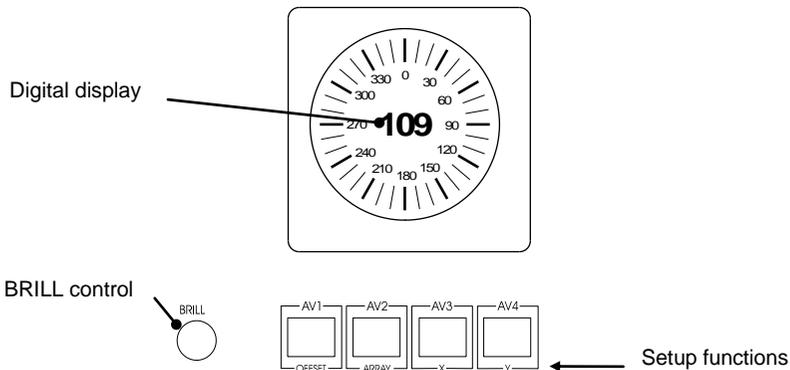

Figure 5.2 Setup Mode Controls
5.8.1 Using Setup Mode (Figure 5.2)